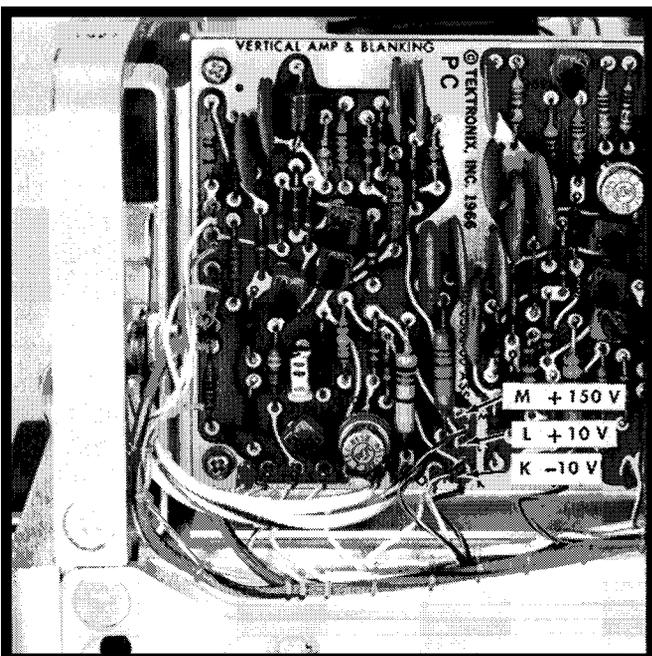

Fig. 6-5. Location of the low voltage check points.
- b. Turn the POWER switch to ON position, then connect a calibrated voltmeter between pin K on the Vertical Amplifier and Blanking circuit board, and chassis ground (see Fig. 6-5).
- b. Connect the voltmeter between pin L of the Vertical Amplifier and Blanking circuit board and chassis ground (see Fig. 6-5). Check the  $+10$  volt supply. Must read between  $+9.7$  and  $+10.3$  volts ( $10\text{ V} \pm 3\%$ ).
- b. Connect the VOM to the voltage check points (Fig. 6-5), and check the voltage regulation of each regulated supply as the input line voltage is varied through the input line voltage range as shown in Table 6-1.